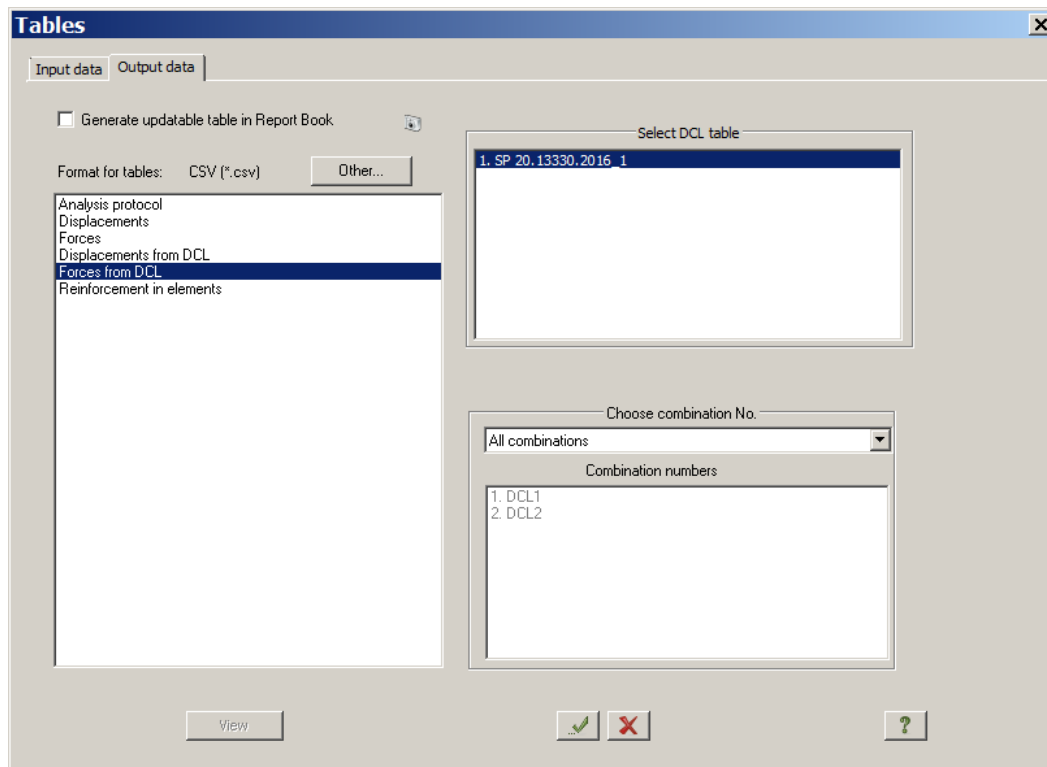

Figure 19.26 **Standard tables** dialog box
- ⇒ In the **Standard tables** dialog box (see Fig.19.26), select **Forces from DCL** in the list.